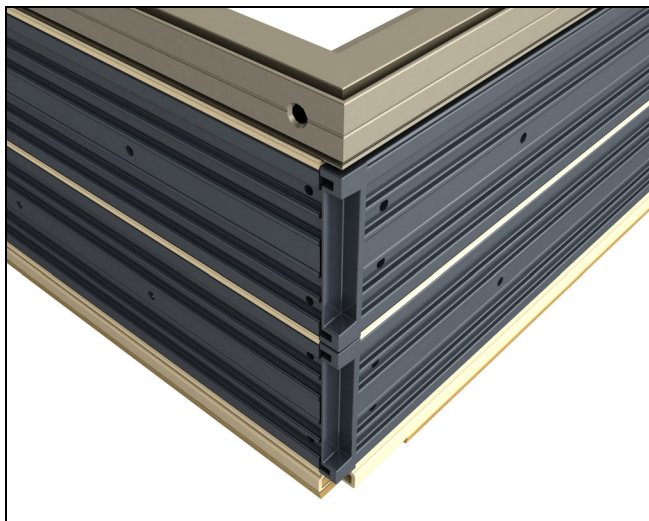

Figure 111
2. Align side jamb to head jamb, using frame cladding corner key as reference. Slide until miter is aligned. See figure 111.